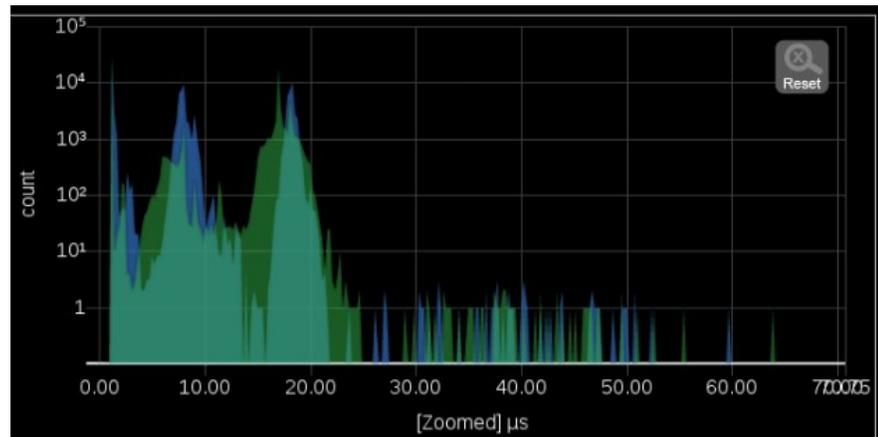

Figure 156: Zooming in on the PIT Histogram graph
- **Pinch and zoom control:** Use the pinch-out gesture on the graph to zoom in. After using the zoom in gesture, the text **Zoomed** will be displayed on the x axis of the graph. (See Figure 156.)